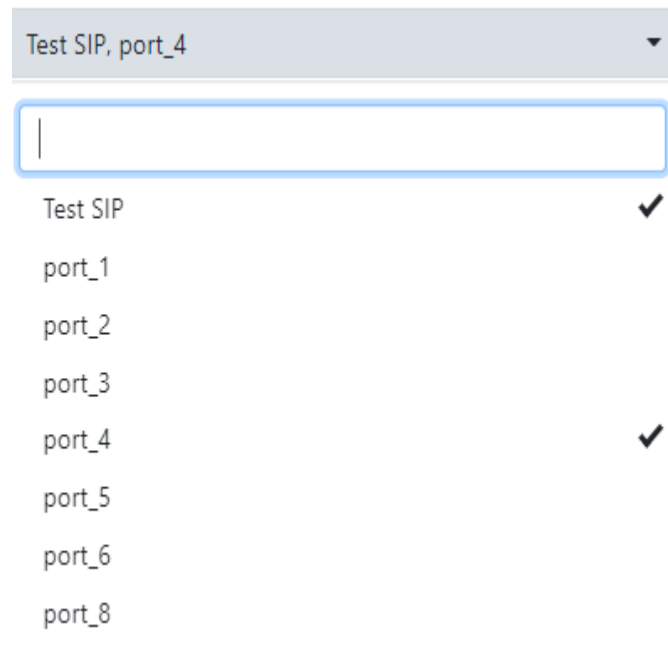

Figure 7-3: Selecting the SIP channel and one port that will be linked to the SIP EXT.
8. Click the name of the SIP channel and one of the ports you want the SIP account associated with as shown in Figure 7-3. In this example we are associating Port 4 with the 1234 SIP account.